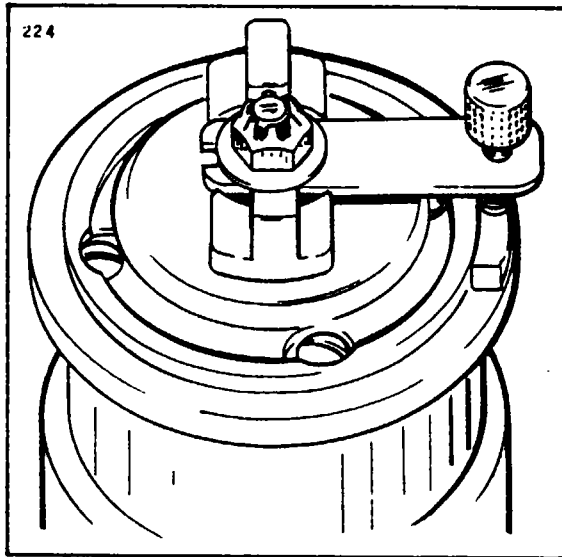

Figure 8-11. Rotor Holding Tool Installed
1. Loosen the nut securing the drive plate to the magneto shaft sufficiently in order to install the Scintilla 11-8465 Rotor Holding Tool under the nut and flat washer as shown in Figure 8-11. Tighten the nut securely.